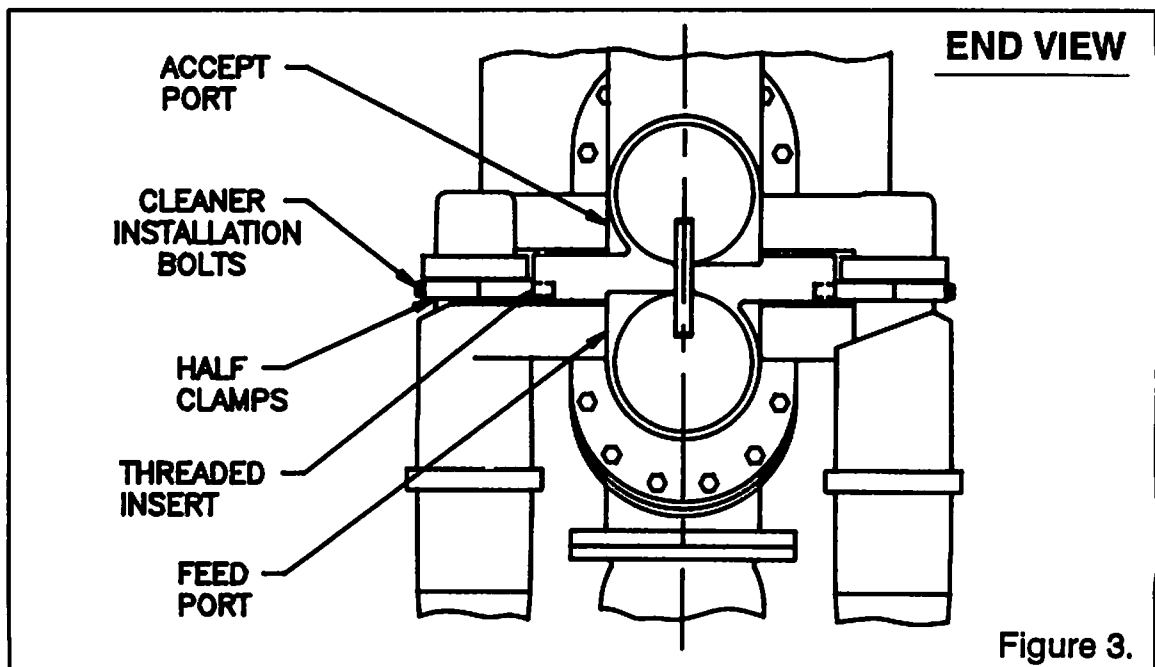

Figure 3.
5. Draw the feed and accept connections into position using the remaining plastic half clamp and (2) bolts provided. See Figure 3. Check that O-rings are seated properly in the grooves as unit is drawn into the header.